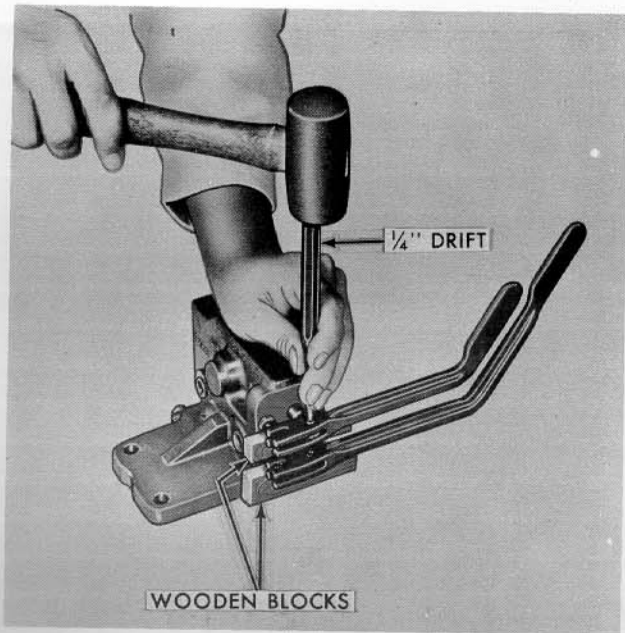

Figure 7
2. Insert a wooden block between the valve spools (and/or spool and surface) and carefully drive out the spool handle roll pin(s), Figure 7. Remove the handle(s).